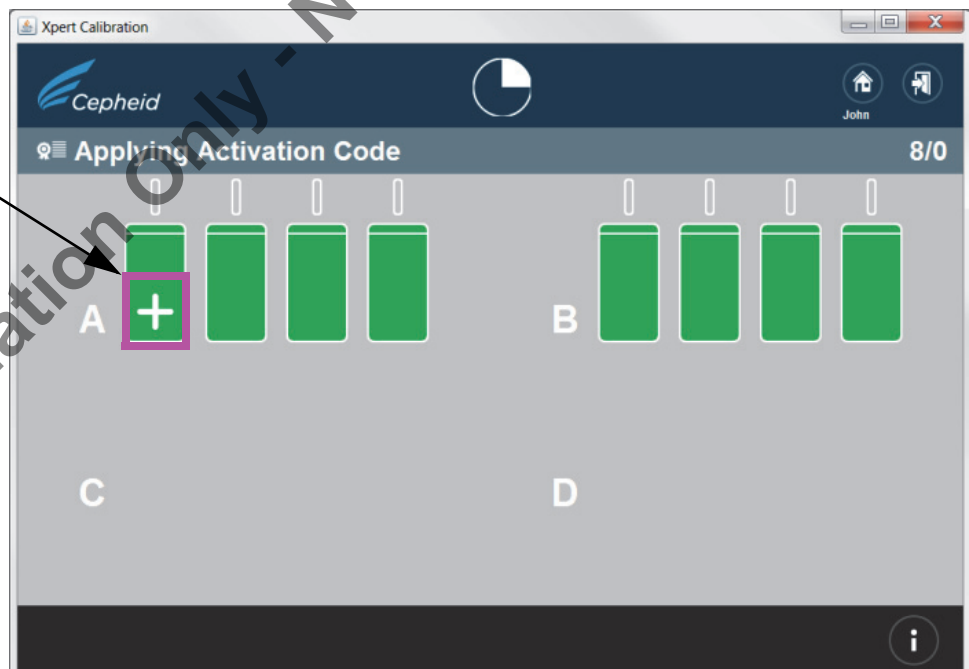

Figure 24. Applying Activation Code screen
21. After the Activation Code Certificate has downloaded, the Activation Code will be applied to each successfully tested module, and those modules will then be identified with a "+" symbol. See Figure 24.
Note: In the screen shown in Figure 24, some modules may display the service required icon or may be grayed out if they were skipped.